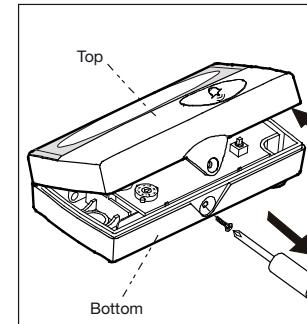

Fig. 1
2. Use a crosspoint screwdriver to remove the top of the unit. Fig. 1